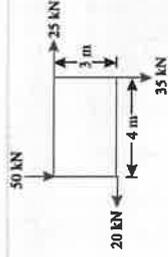

Fig.1
- b A system of forces are acting at the corners of a rectangular block as shown in Fig.1. Determine the magnitude and direction of the resultant force.